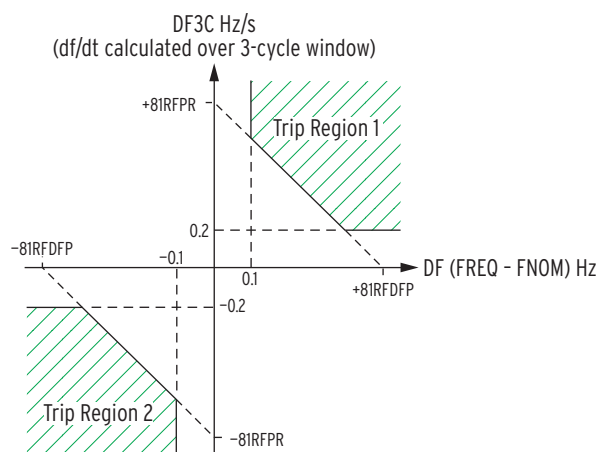

Figure 7 81RF Characteristic Power Element Protection
The fast rate-of-change-of-frequency protection, 81RF, provides a faster response compared to frequency (81) and rate-of-change-of-frequency (81R) elements. Fast operating speed makes the 81RF element suitable for detecting islanding conditions. The element uses a characteristic (see Figure 7) based on the frequency deviation from nominal frequency ($DF = \text{FREQ} - \text{FNOM}$) and the rate-of-change of frequency (DF3C) to detect islanding conditions.